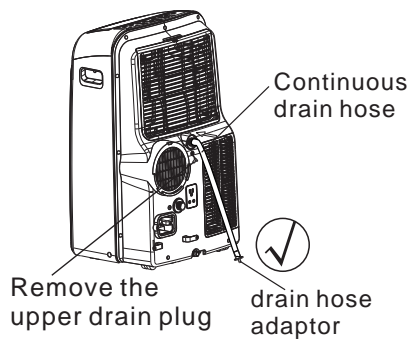
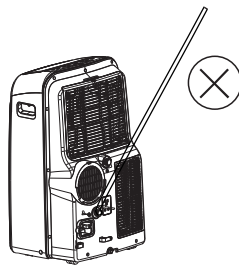

Fig.20a
Fig.21b
- During dehumidifying modes, remove the upper drain plug from the back of the unit, install the drain connector(5/8" universal female mender) with 3/4" hose(locally purchased). For the models without drain connector, just attach the drain hose to the hole. Place the open end of the hose adaptor directly over the drain area in your basement floor. Please refer to Fig.20a.
NOTE: Make sure the hose is secure so there are no leaks. Direct the hose toward the drain, making sure that there are no kinks that will stop the water flowing. Place the end of the hose into the drain and make sure the end of the hose is down to let the water flow smoothly. (See Fig.20a, 20b, 21a). Do not let it up. (See Fig.21b).